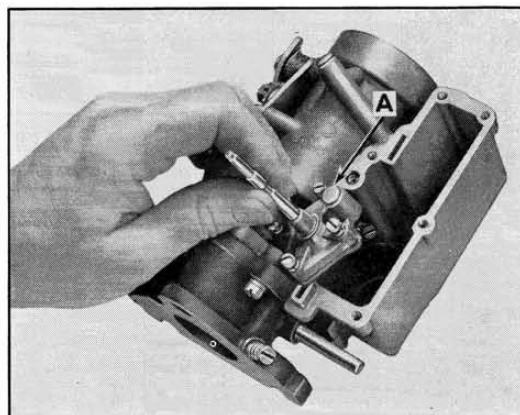

Fig. 10
4. Install pump diaphragm and housing with four screws into pump bowl (fig. 10). Tighten screws securely.